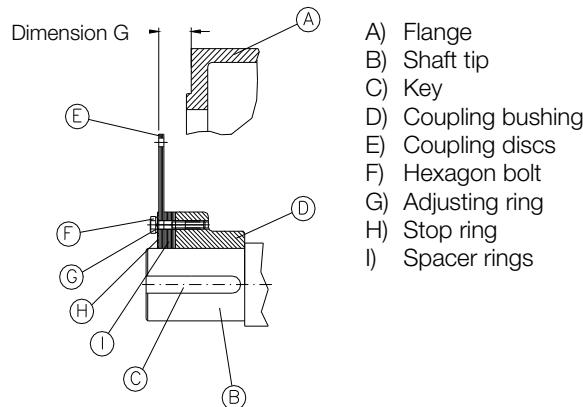

Figure 4.13: Procedure to change measure G
To do this simply remove or add the **spacer rings (I)**, as shown in Figure 4.13.